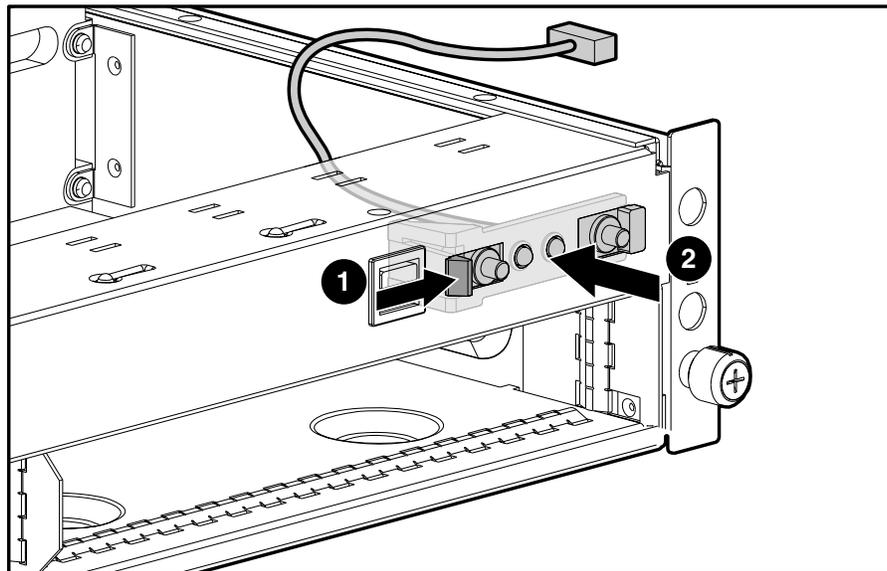

Figure 27: Removing the power switch assembly
10. Press the release tab on the left side of the power switch assembly ❶ and then push the power switch assembly back to remove it ❷, as shown in Figure 27.